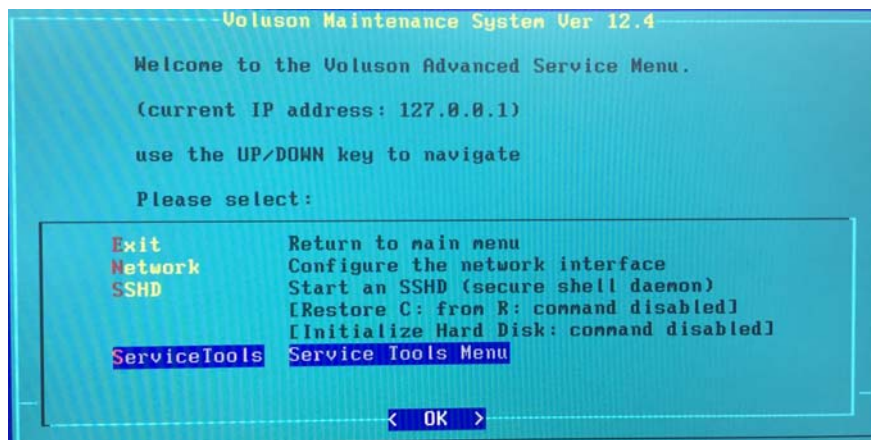

Figure 5-54 Advanced Functions Menu
- 3.) In the "Advanced Functions Menu" (Figure 5-54) select [ServiceTools].